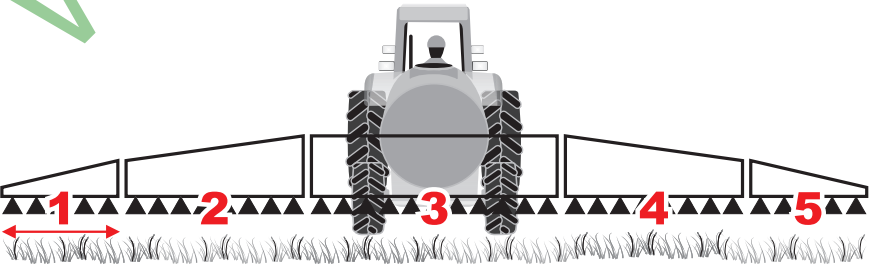

Fig. 61
- Enter the measurements of the implement sections (Fig. 61).